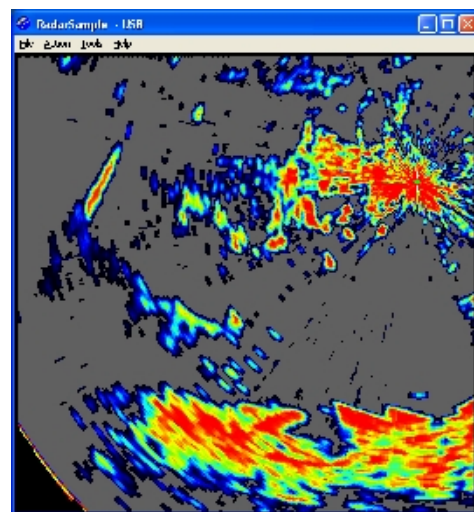

Figure 27 - RadarSample Main Window
You can adjust this image for range, orientation, and centering, as well as the standard radar adjustments (gain, rain and sea clutter suppression, etc.), using the settings in the RadarSample Main USB Settings window (see **Figure 27**).
- a. At this point, you should see radar imagery in the RadarSample image window, similar to that shown in **Figure 27**. You may off-center this image using the left mouse button when the mouse is anywhere in the Radar Image Display window.